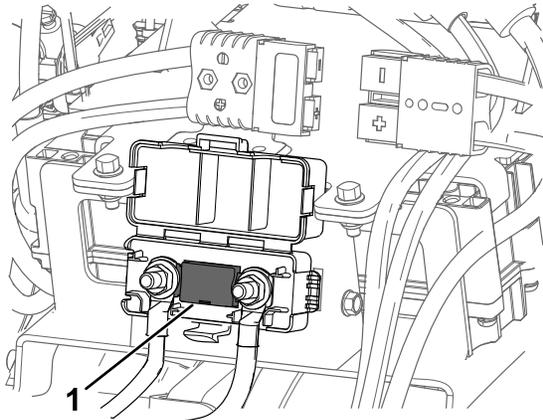

Figure 33
6. Locate the fuse and replace it (Figure 33).